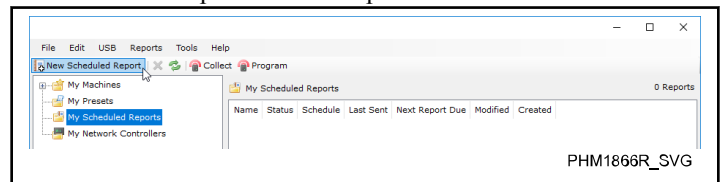

Figure 33
2. Click **New Scheduled Report**. Refer to *Figure 33*. The "Scheduled report" window opens.